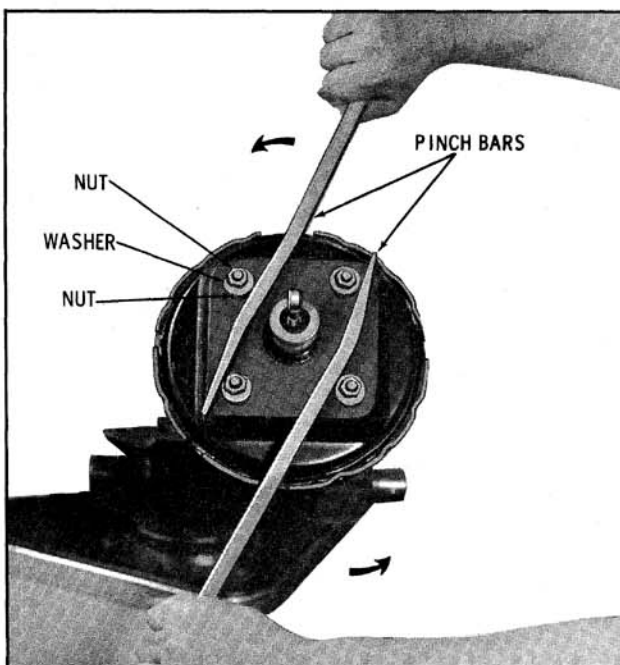

Fig. 11-47 Separating Housings
4. Brush locking tangs of front and rear housings liberally with seal lubricant. Rotate rear housing so that cut-outs in rear housing line up with tangs of the front housing. Tap rear housing lightly with a plastic hammer to assist in removal. (Fig. 11-47)